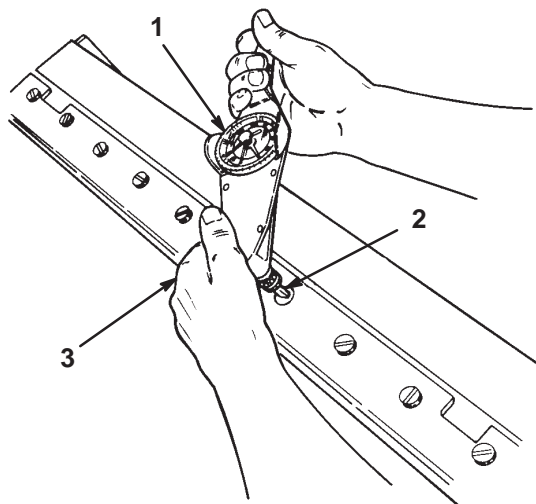

Figure 27
3. Use a torque wrench and Part No. 51-0880 special tool to finish tightening the screws (Fig. 27). Torque the screws to 250 in.-lb. (28 Kgm) beginning with the center screw and tightening alternate screws toward each end to ensure that the bedknife will be flat against the bedbar.